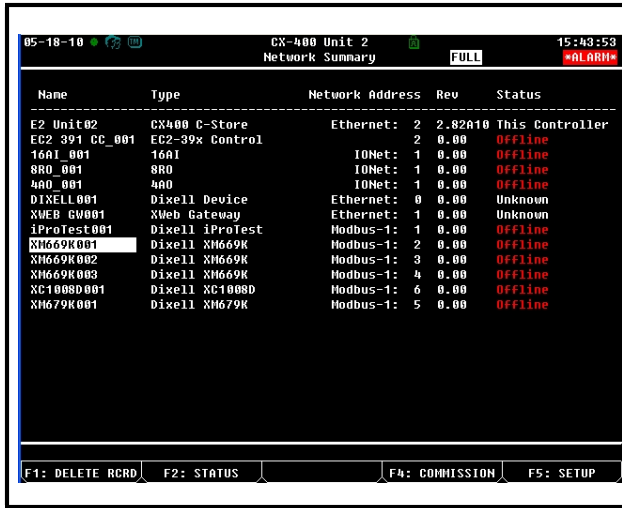

Figure 19-8 - Network Summary Screen
8. When finished, press  to return to the *Network Setup* menu, then press **1** - **Network Summary** (Figure 19-8). Locate the devices you set up, and look at each device's status in the **Status** field. You will see one of the following messages: